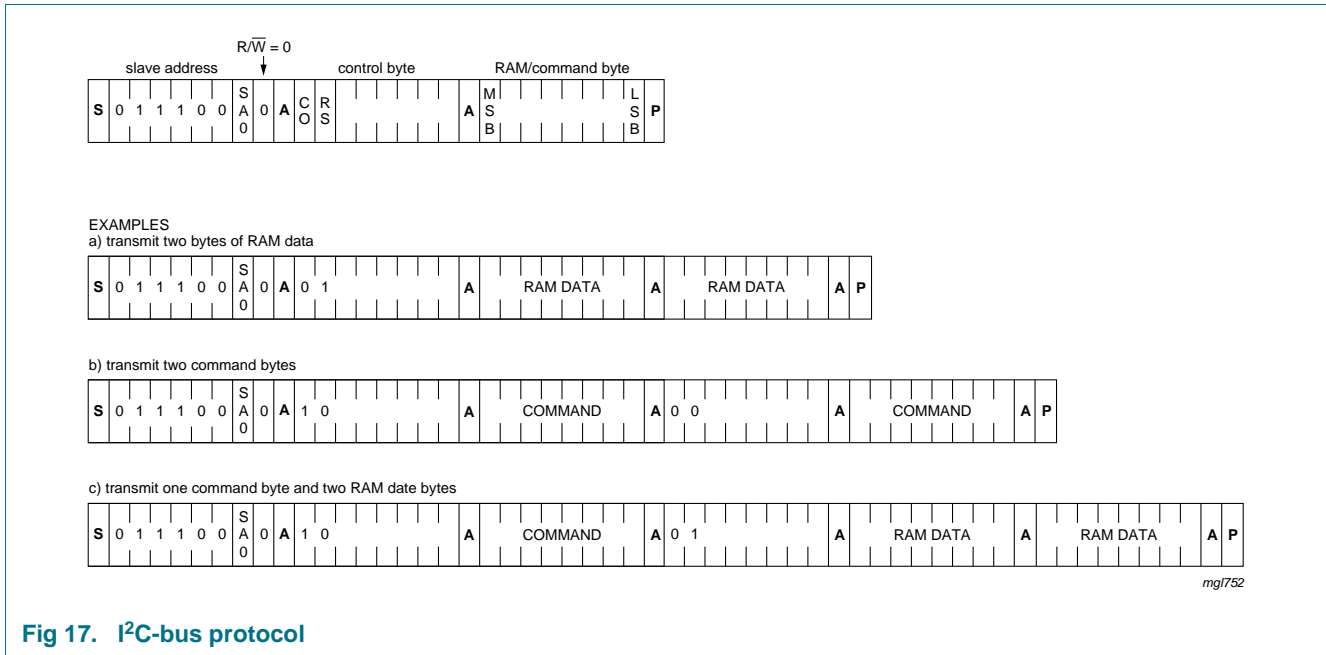

Fig 17. I²C-bus protocol
The I²C-bus protocol is shown in Figure 17. The sequence is initiated with a START condition (S) from the I²C-bus master which is followed by one of the available PCA8534A slave addresses. All PCA8534A with the same SA0 level acknowledge in parallel to the slave address. All PCA8534A with the alternative SA0 level ignore the whole I²C-bus transfer.